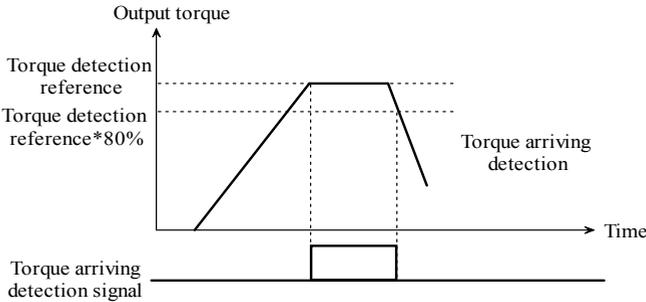

Fig. 5-3-11 Torque arriving detection threshold
- ◆ If motor torque is equal to or more than the range of torque detection reference, the output of terminal is valid. If the ac motor torque is less than 80% of reference, the output of terminal is invalid, as shown in Fig. 5-3-11.